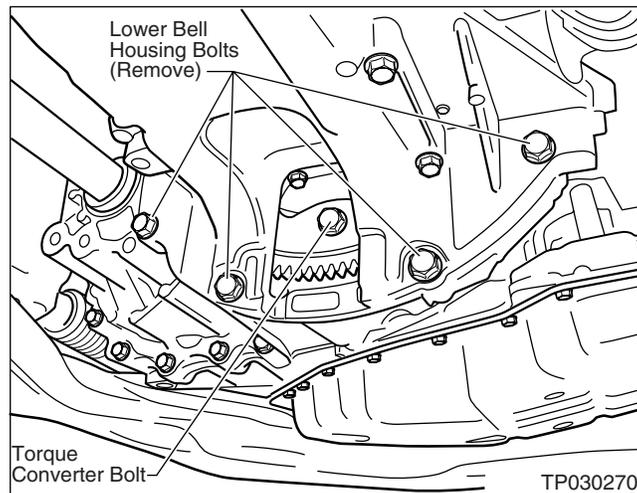

Figure H8
- Remove the Torque Converter and **Lower** Bell Housing Bolts before removing the engine. It's easier to do this before the engine is out of the vehicle. See Figure H8.